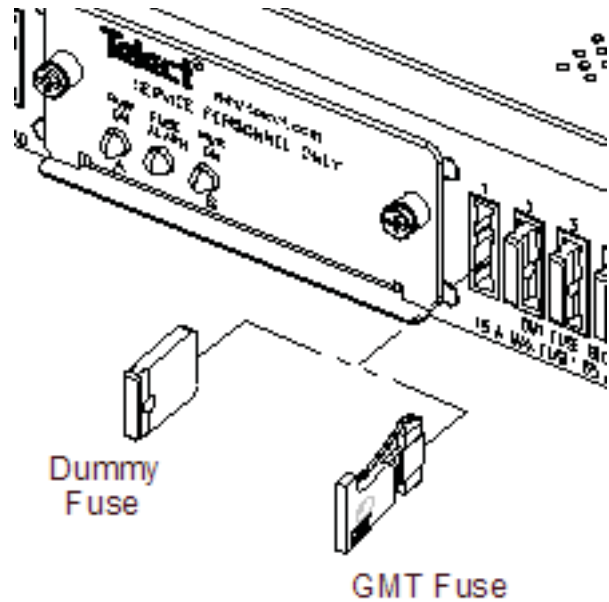

Figure 12 - Installing GMT Fuses
- For a GMT fuse, pull out the dummy fuse and insert the operable fuse, as shown in Figure 12.